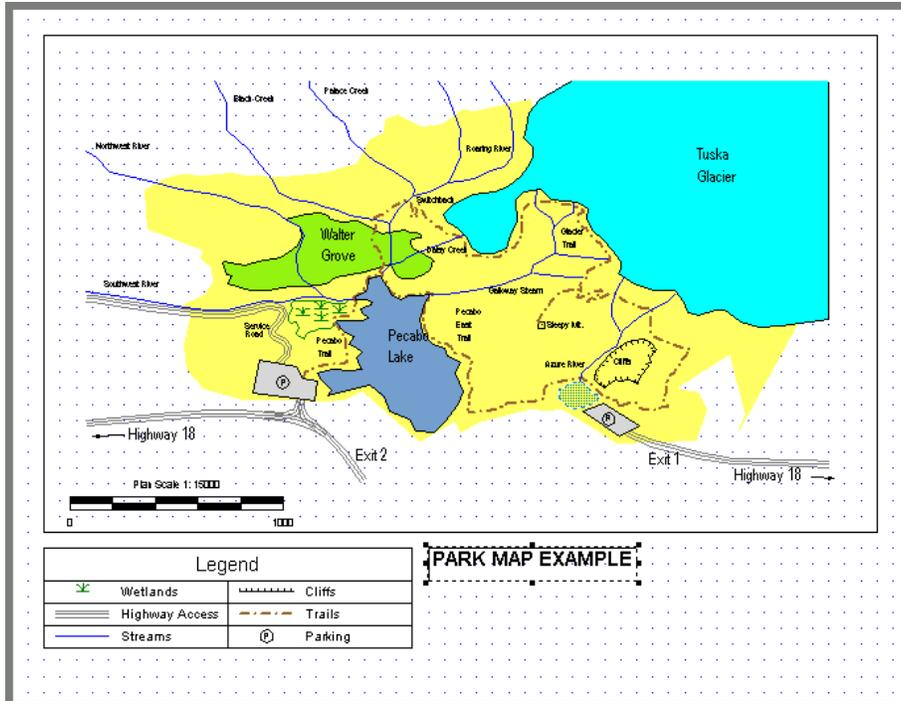

Figure 3-35: Multi-Plot Rectangle
- o Change font size to **18** and **bold**. Press OK and position the sub-view as shown in Figure 3-35.